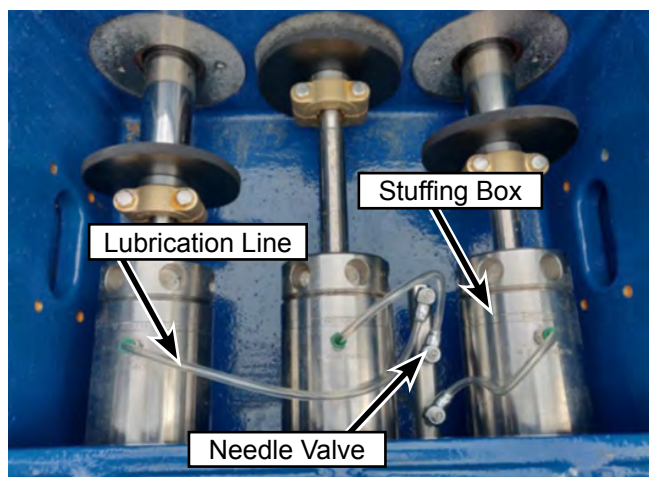

Figure 6: Gen 2 Pump Internal Lube Layout
2. Look into the rod box and verify that lubrication water is flowing between the gland nuts and the plungers (Figure 6). On 6000 series pumps, the water will flow from the small holes in the bottom of the gland nut wrench holes.